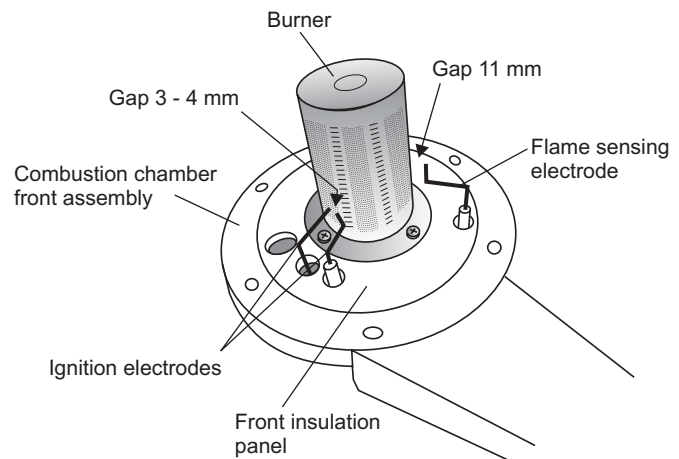

Fig. 26
6. Remove the four screws securing the burner (see Fig. 26) and remove the burner. Clean the burner with a soft brush and check that the flame ports are clear. Blockages may be removed with a stiffer brush. Tap the burner, open end down, to remove any deposits from inside.
9. Check the spark gap, positioning and height of the electrodes. See Fig. 26.
8.3 ELECTRODES - See Fig. 26
8.4 MAIN BURNER - Fig. 26